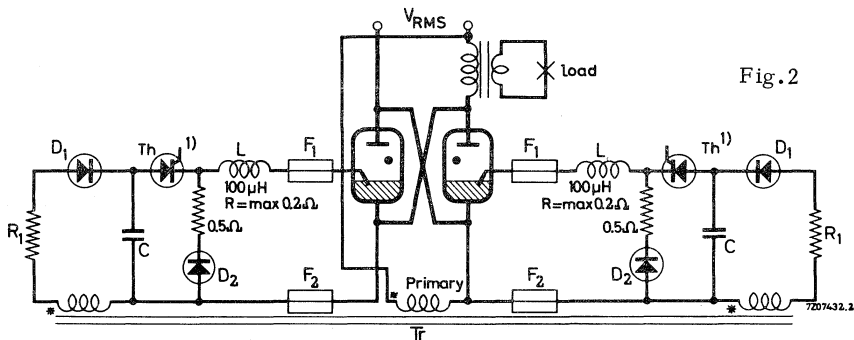

Fig. 2
B. Separate excitation (fig.2)